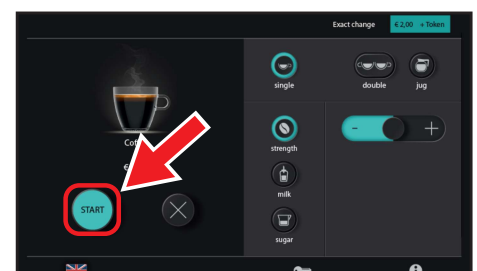

Figure 20.
4. Press Start (see Figure 20) and fulfil the payment obligation if necessary. The light above the outlet of the selected product starts flashing red rapidly and your consumption is dispensed into your cup or glass.
13. Press Start. (see Figure 20)